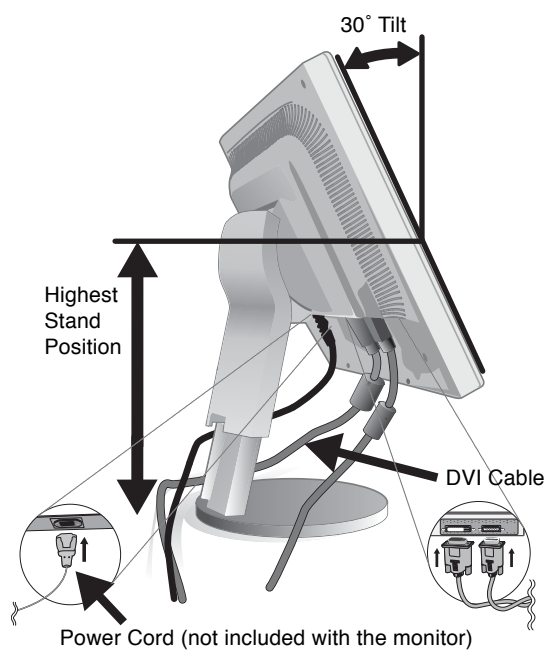

Figure A.1
4. Place hands on each side of the monitor to tilt the LCD panel 30-degree angle and lift up to the highest position (**Figure A.1**).